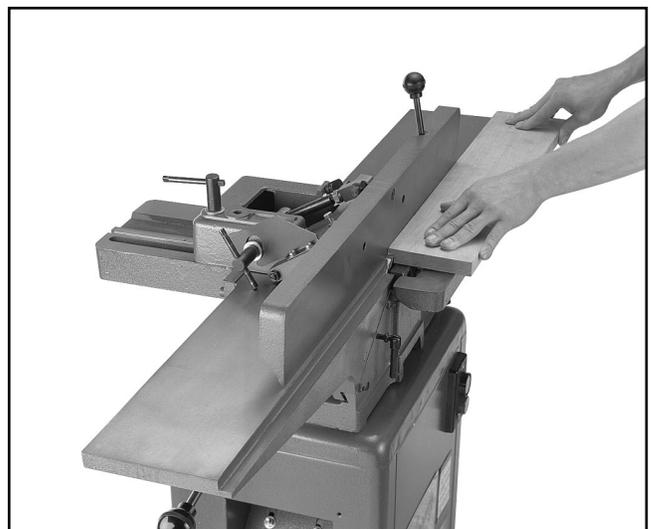

Figure 27. Correct operator position for rabbeting.
5. Slowly and evenly feed stock through the cutterhead. Using the $\frac{1}{16}$ " rule, it will take six passes to achieve a common $\frac{3}{8}$ " rabbet. See **Figure 27**.